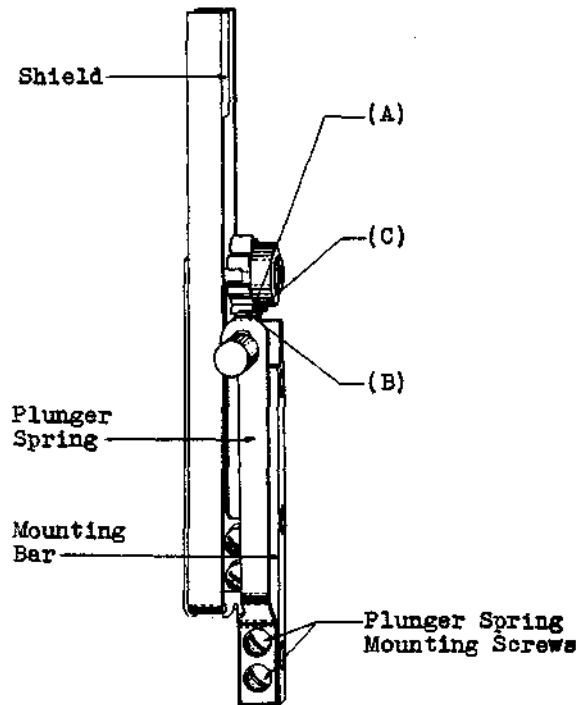

Fig. 3
(a) Fig. 3 (A) - With the shoulder of the ratchet wheel pressed against the mounting bar and with the plunger spring just engaging the ratchet wheel, the clearance between the edge of the extreme end of the spring nearer the ratchet teeth and the teeth shall be:
(b) Fig. 3 (B) - With the engaging edge of the plunger spring engaging the straight face of any ratchet tooth the edge of the spring shall be approximately parallel to the edge of the ratchet tooth. Gauge by eye.
(c) Fig. 3 (C) - With the movement of the ratchet wheel taken up in a counter-clockwise direction, the clearance between the curved surface at the